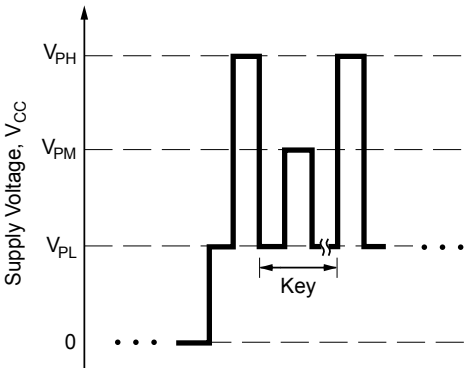

Figure 5. Register selection pulse sequence
**Register Selection** Each programmable parameter can be accessed through a specific register. To select a register, a sequence of voltage pulses consisting of a  $V_{PH}$  pulse, a series of  $V_{PM}$  pulses, and a  $V_{PH}$  pulse (with no  $V_{CC}$  supply interruptions) must be applied serially to the VCC pin. The quantity of  $V_{PM}$  pulses is called the *key*, and uniquely identifies each register. The pulses for selection of register key 1, is shown in figure 5. No  $V_{PM}$  pulse is sent for key 0. The register selections are shown in table 2.
When setting the  $B_{OP}$  Trim parameter, as an aid to programming, values can be traversed from low to high, or from high to low. To accommodate this direction selection, the value of the bit field (and code) defaults to the value 1, on the falling edge of the final register selection  $V_{PH}$  pulse (see figure 5). A complete example is provided in figure 11.